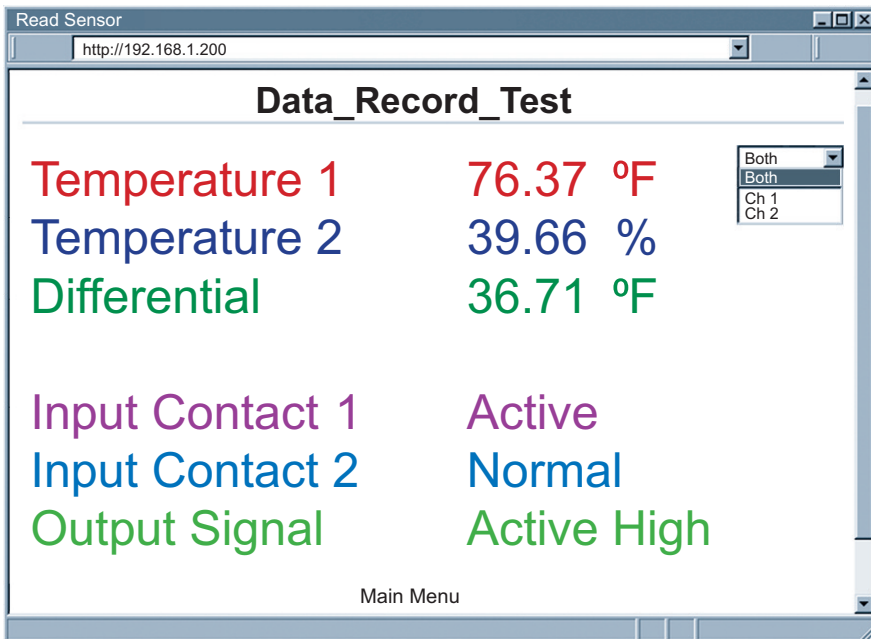

Figure 4.7 Read Sensor
- Click on Read Sensor. In a few seconds the following page (**Figure 4.7**) will appear with all default values of 100.00. Then the actual readings of Temperature will display.